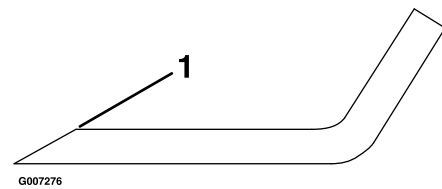

Figure 41
1. Use a file to sharpen the cutting edge at both ends of the blade (Figure 41). Maintain the original angle. The blade retains its balance if the same amount of material is removed from both cutting edges.